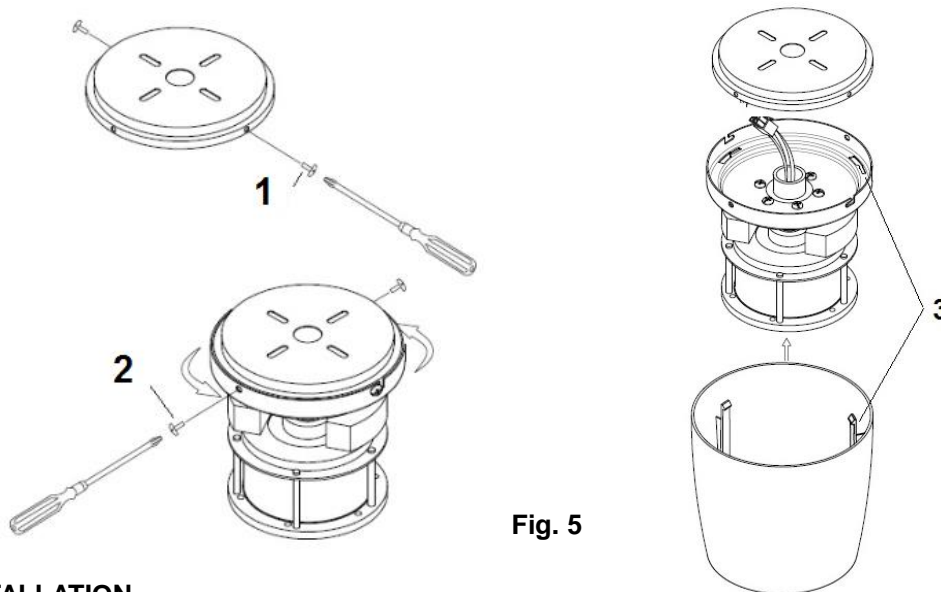

Fig. 5
- Loosen 2 screws (2) from the mounting bracket. **Fig. 5**
- Loosen 2 screws (1) by half thread from the mounting bracket. **Fig. 5**
- Lift the hanging plate of the fan assembly up to the mounting bracket and let the L-shape slot on the hanging plate go through the screws (1) on the mounting bracket. Turn the hanging plate until it locks in place at the end section of the L-shape slot and secure it by tightening the two screws (2). Avoid damaging the electrical wiring prepared previously.
- Finally attach the motor housing to the hanging plate and secure it by pushing the hooks (3) into the slot holes and turn it anti clockwise.